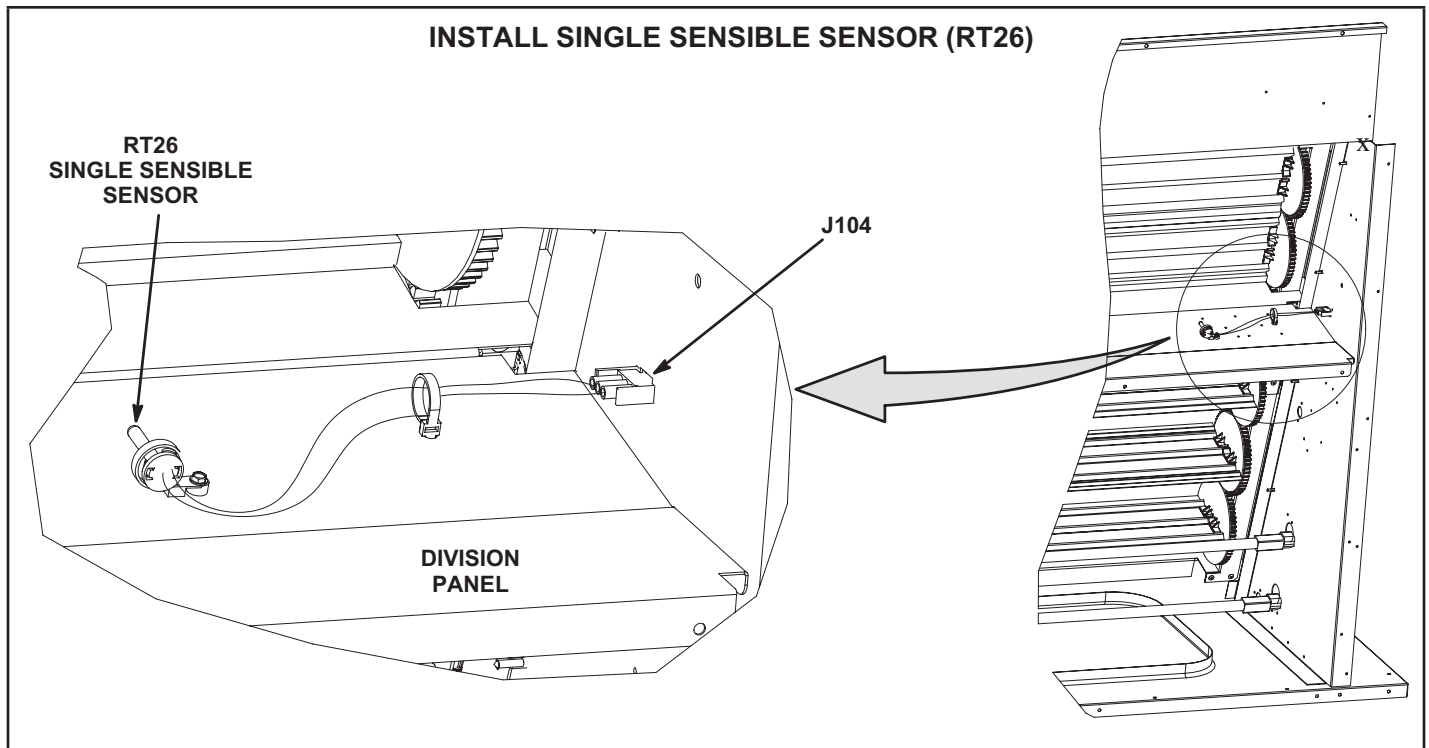

FIGURE 26
- 1 - Install RT26 sensor onto the divider panel as shown in figure 26. Use #6-32 X 7/8" TFS screws provided.